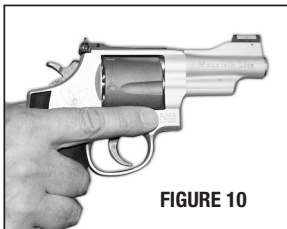

FIGURE 10
- Grasp the revolver in the shooting hand with your finger still outside the trigger guard (FIGURE 10).
- Your revolver is now fully loaded. The hammer is in the “at rest” position as shown in FIGURE 10.